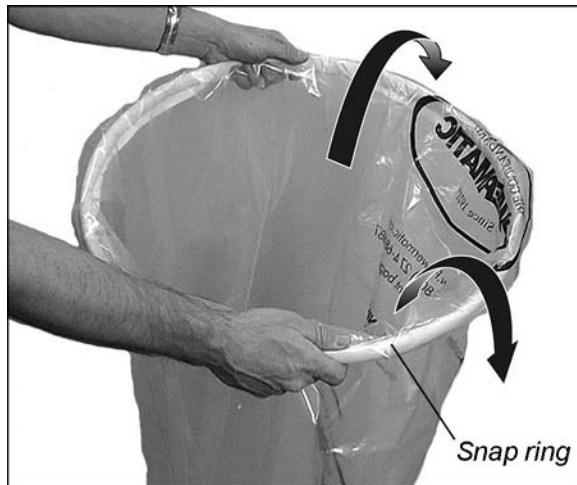

Figure 8
1. Place the *snap ring* over the top of the *plastic collector bag*, and fold over the bag approximately three inches (Figure 8).